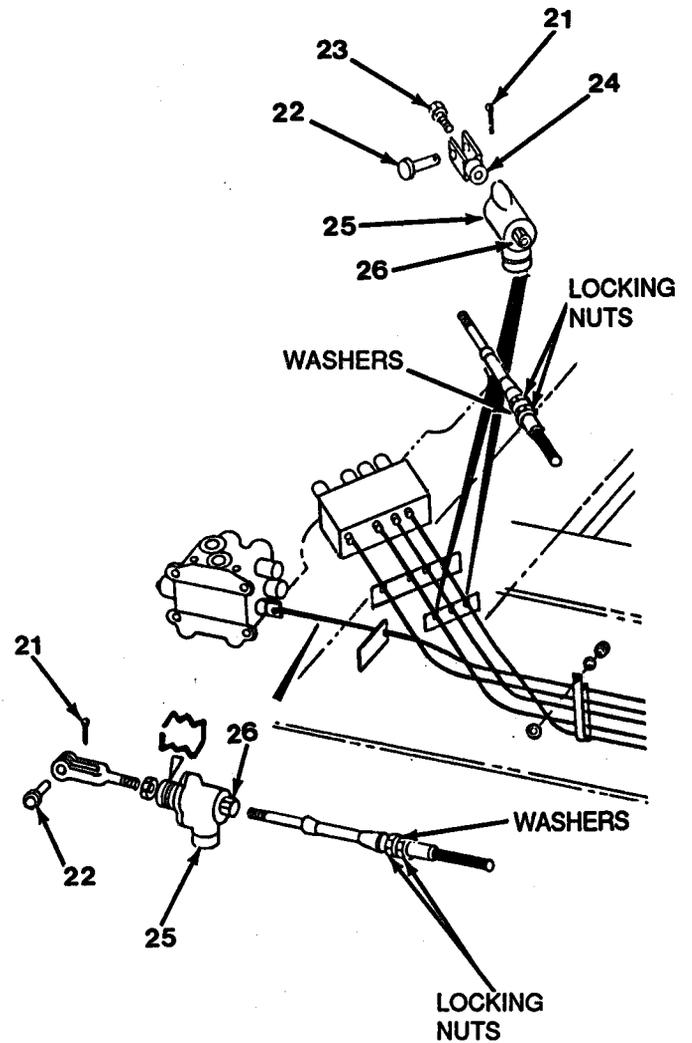

Figure 17-5
1. Install clevis (24) and capscrew (23) on end of disconnect assembly (25, Figure 17-5), telescope and boom hoist cable only.
2. Install jam nut (26) and disconnect assembly (25, Figure 17-5) on cable end. Tighten jam nut (26) securing disconnect assembly (25) on cable end.
3. Connect two wires on disconnect assembly (25). Note tag from removal.
4. Position cable in place and install pin (22) and cotter pin (21).